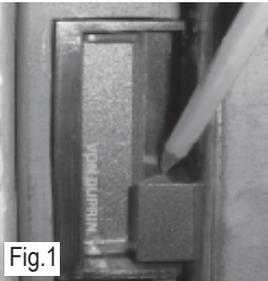

Fig.1
- Step 3: Mark latch limit lines on keeper (Fig. 1).